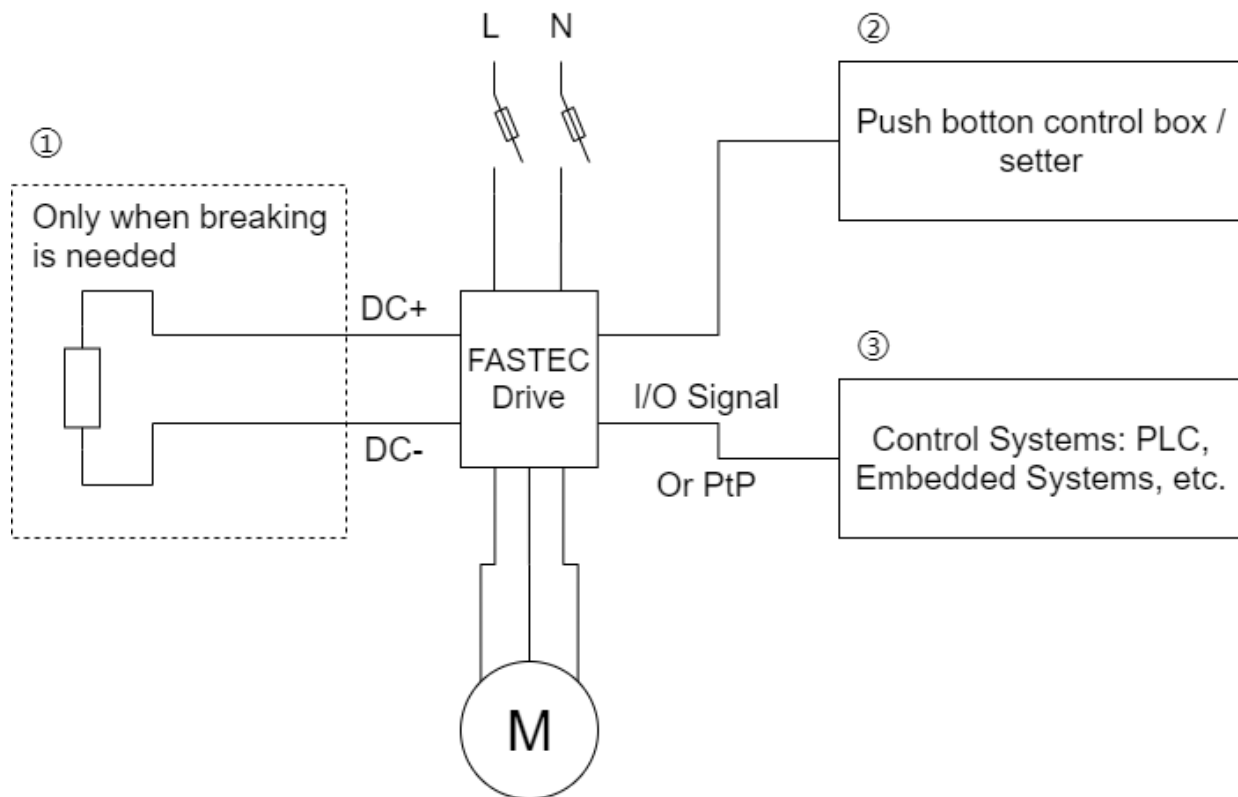

Fig 1.
A braking circuit is needed when the motor operates in generator mode (an example would be a cable car on the downward travel). A braking circuit is a standard feature of Fastec Drive, so to operate in generator mode requires only that an appropriately selected braking resistor is connected. The connection is shown in ① of Fig 1.
FASTEC provides two control boxes. If the motor is to be controlled manually, use the push-button control box of Fastec Drive. However, if more flexibility is required, the Setter would be used. The Setter can program Fastec Drive to operate in different modes. Both Control boxes are shown in ② of Fig 1. The push-button control box and the Setter can be connected to FASTEC Drive simultaneously.
For machines that require more functions, as shown in ③ of Fig 1, FASTEC Drive can be integrated into the control system using PtP communication or I/O ports. The machine controller (which controlled the single phase motor) is then replaced by a logic controller which controls Fastec Drive (which controls the 3 phase motor). FASTEC provides a system integration and retrofit service so that users can make full use of FASTEC Drive's performance.